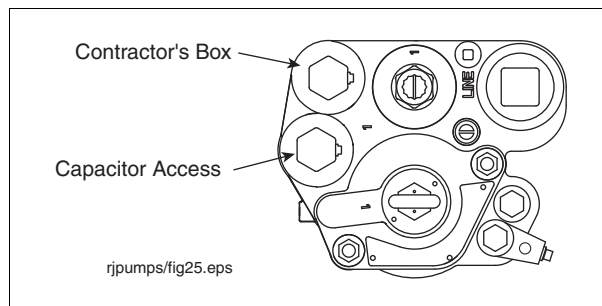

Figure 43. Locating Contractor's Box And Capacitor Compartment
1. Remove capacitor access cover (see Figure 43).
1. Remove the contractor's box cover (Figure 43 on page 49). Remove and discard the o-ring from the cover. Set aside the cover.